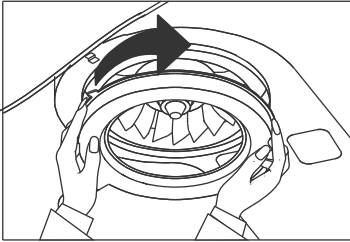

Fig.7-7
- a. Remove the oil base by turning it clockwise direction. (fig.7-7)